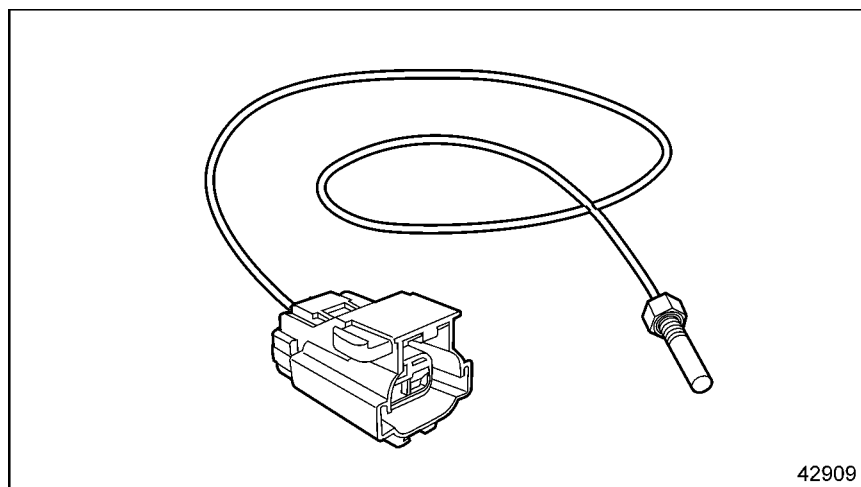

Figure 60-1 Turbo Speed Sensor
1. Disconnect turbo speed sensor connector. See Figure 60-1.